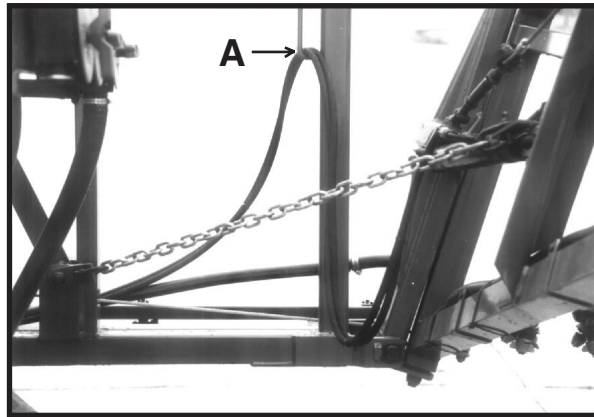

Fig.6
5. Attach safety chain from center section to extended pin on upper end of hydraulic cylinder - Fit locking ring to pin. This will prevent boom sections from accidentally unfolding during installation. (Refer to fig. 6)
1. Route hydraulic hoses to fold cylinders through the hose support bracket **A** (Fig. 6). (Refer to section 11 for hydraulic schematics)